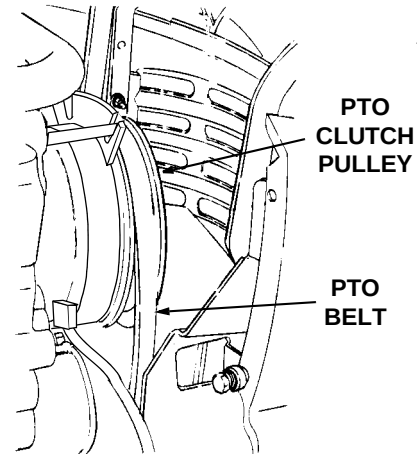

Figure 42
13. Pass the PTO belt upward inside the front of the tractor frame and install the forward end of the belt onto the PTO clutch pulley on the front of the engine. Ensure that the narrow side of the PTO belt engages the groove of the clutch pulley (See Figure 42).